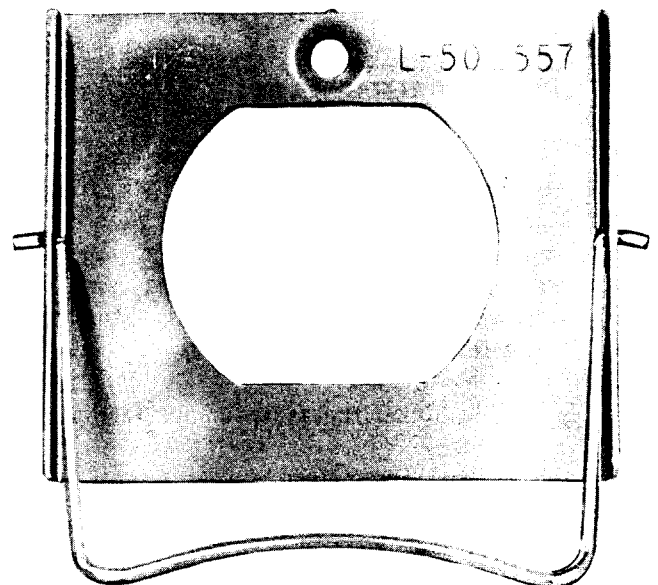

Fig. 13—Clamp for Mounting Early Version KS-20426L3 (MD) Transformer Not Equipped With Molded Mounting Tab
5.02 The transformer is self-protecting with an automatic thermo switch and is provided with primary terminals in the form of parallel blades which serve as the mounting device. If furnished, the clamp (Fig. 13) must be used to hold the transformer securely in the receptacle.
Danger: For safety, securely attach retaining clamp to ac outlet using outlet cover screw **BEFORE** attempting to install transformer. See Fig. 13. When removing transformer, always unplug the power unit completely from the outlet **BEFORE** attempting to